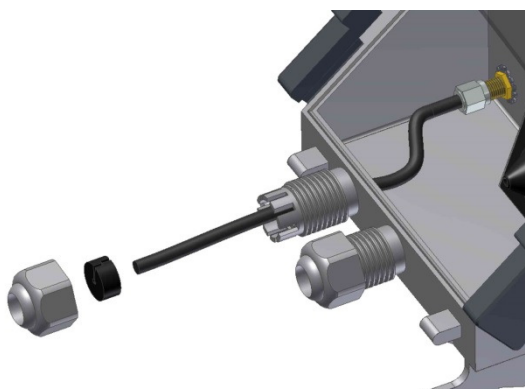

Fig. 13 – Installation of the external antenna
- Unscrew the cable grommet and remove the plug and the sectioned gasket (Fig. 13)